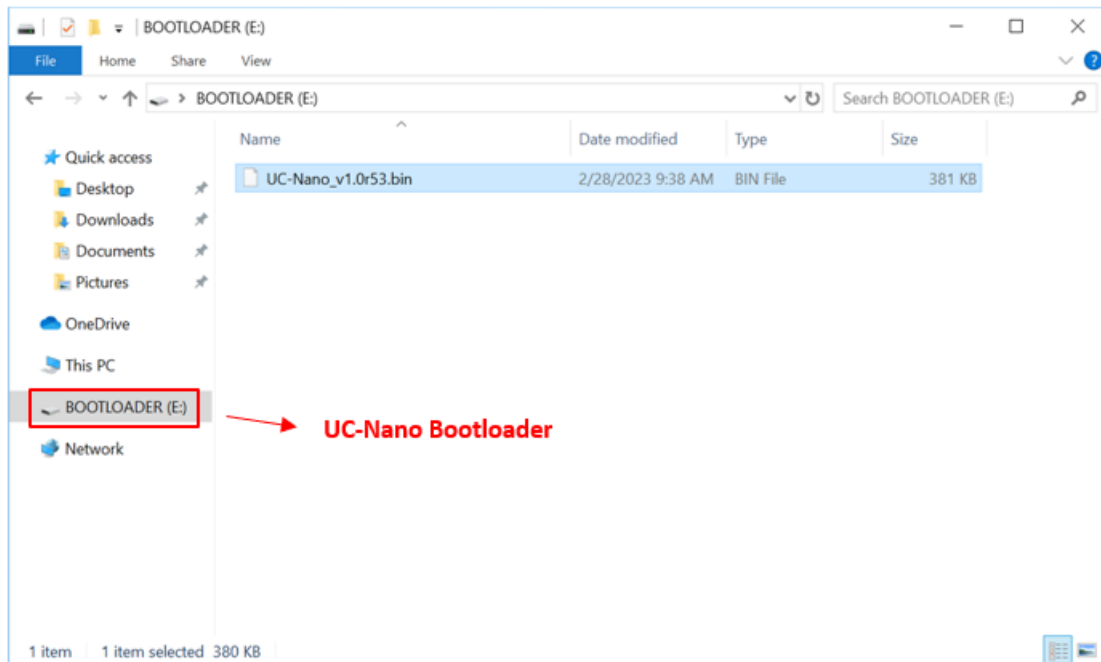

Figure 28. NanoView UC-10 Bootloader
4. Find the **Bootloader Drive** on their PC desktop. Copy and paste the NanoView UC-10 new firmware(.bin) to the Bootloader Drive (Figure 28).